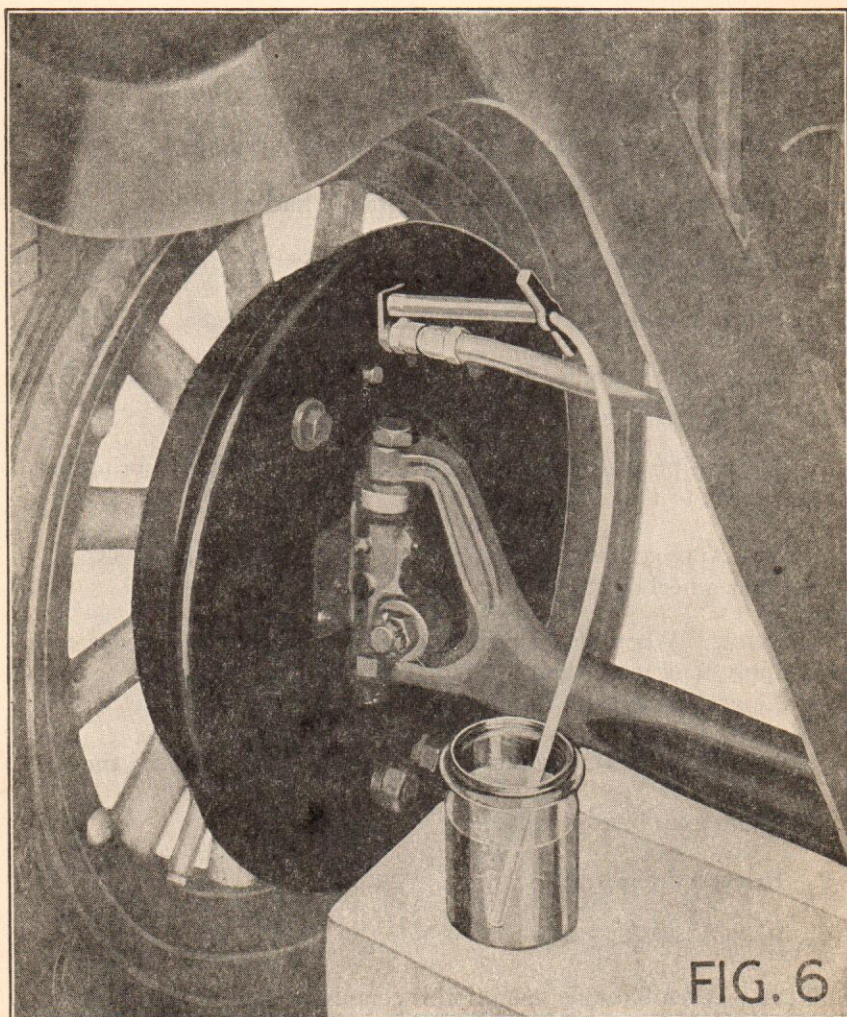

FIG. 6
5. Screw in nipple at the end of the rubber drain tube. (See fig. 6.)